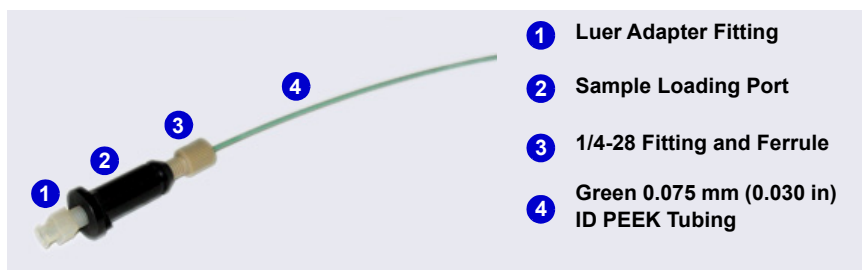

Figure 10-34. Sample Loading Port Connection
4. Attach the luer adapter fitting to the front of the port (see Figure 10-34).